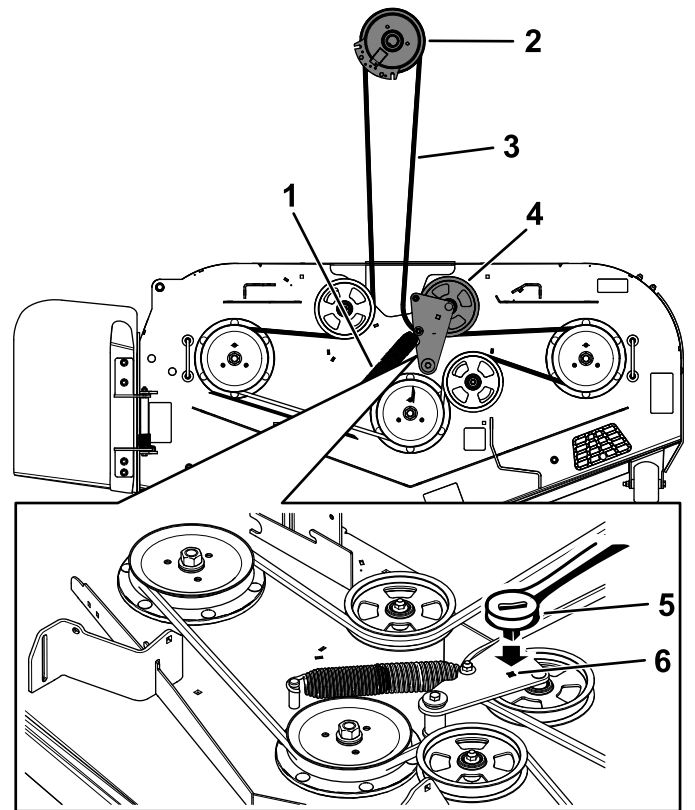

Figure 76
5. Use a 3/8-inch ratchet in the square hole in the idler arm to remove tension on the idler spring (Figure 76).
7. Remove the belt guide on the spring-loaded idler arm (Figure 76).
9. Install the new belt around the mower pulleys and the clutch pulley under the engine (Figure 76).
10. Install the belt guide on the idler arm (Figure 76).
11. Using the 3/8-inch ratchet in the square hole, install the idler spring (Figure 76).